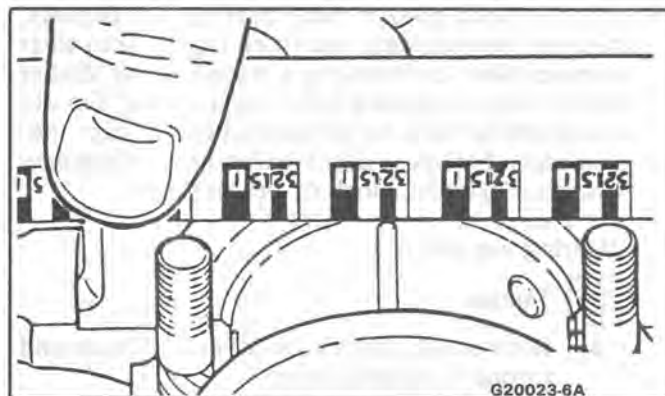

Figure 26 Measuring Bearing Clearance
6. Measure the flattened gaging plastic at its **widest point** with the scale printed on the gaging plastic package (Figure 26).